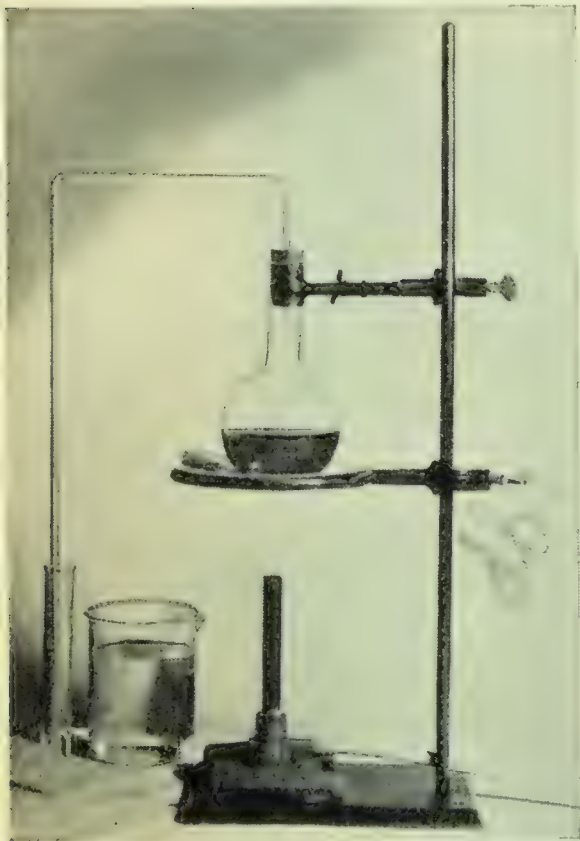

FIG. 39. Experiment 11b
b) Steam, as you know, is the invisible gas formed when water boils. Let us see what happens when steam is cooled. First, we will make some steam by heating water in a flask. To keep the steam from being lost in the air, we will use a stopper with a glass delivery tube in it (Figure 39). Then we will place a test-tube under the delivery tube and pass the steam into the test-tube. Can you see the steam?